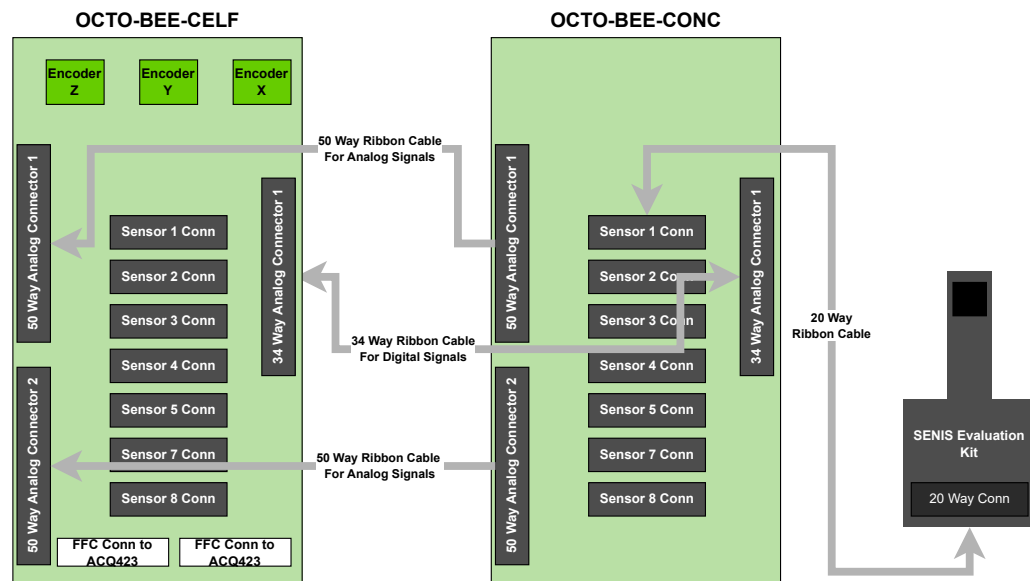

Figure 4: OCTO-BEE Full Path Diagram
For full system operation, the Concentrator board (OCTO-BEE-CONC) is connected to the CELF, as illustrated in Figure 4.
3. Connect the corresponding ribbon cables from the CONC to the CELF, as shown in Figure 4.